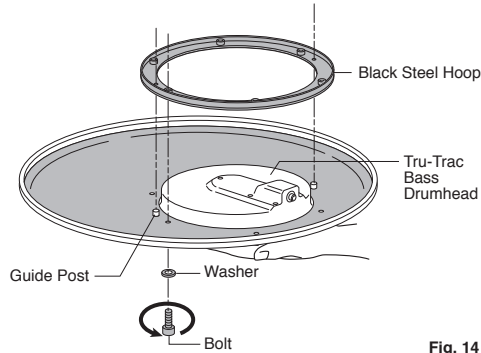

Fig. 14
4. Place the Black Steel Hoop as shown making sure that the Guide Posts on the Tru-Trac Bass Drumhead are inserted into the corresponding guide holes in the Black Steel Hoop (Fig. 14). Hand tighten the bolts on the Tru-Trac Bass Drumhead from underneath.